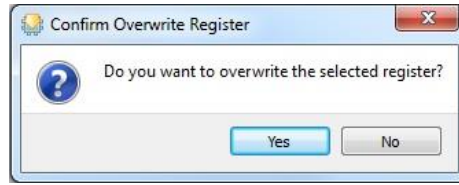

Figure 5.4. Confirm Overwrite Register
- Click the **Program** button in the **Feature Row** dialog box (Figure 5.2). The **Confirm Overwrite Register** dialog box opens, as shown in Figure 5.4.